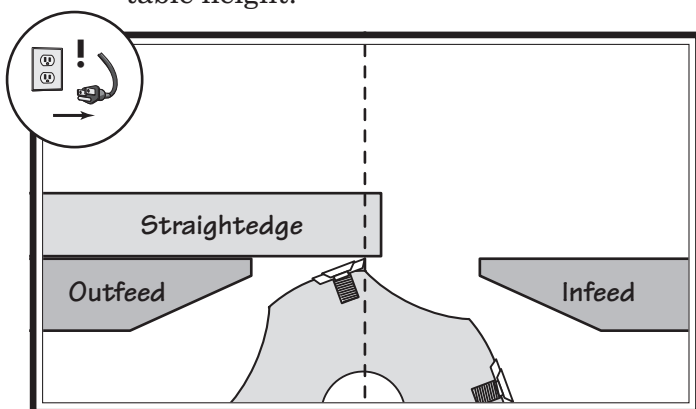

Figure 52. Cutterhead insert at top-dead-center.
3. Place a straightedge on outfeed table so it extends over cutterhead, and rotate cutterhead pulley until one of the carbide inserts is at top-dead-center (TDC), as shown in **Figure 52**.
4. When correctly set, carbide insert will just touch straightedge when insert is at its highest point of rotation (see **Figure 52**).